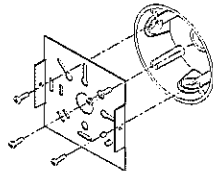

FIG. 2
- Step2: Fix the base plate onto the junction box (FIG.2)